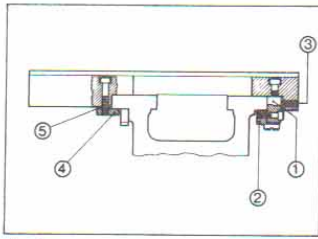

Fig. 30
A combined gib strip ① and lift plate ② is provided at the rear of the saddle for the elimination of play in both planes. See Fig. 30. When adjusting the saddle gib strip, first adjust the two outer screws ③, ensuring equal pressure. After adjusting, check for freedom of movement but without play. Next adjust the inner screw so that it contacts the strip without increasing the friction.